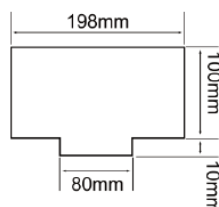

Figure 6 Schematic Diagram of the Reserved Space for the Rear Panel Wire Connections
2. Adequate space for wires connecting to the ZS-200M must be reserved on the rear side of the unit. If the surface thickness is greater than 10mm, the space reserved for the wires must be about 80mm long and 10mm wide, as shown in Figure 6.